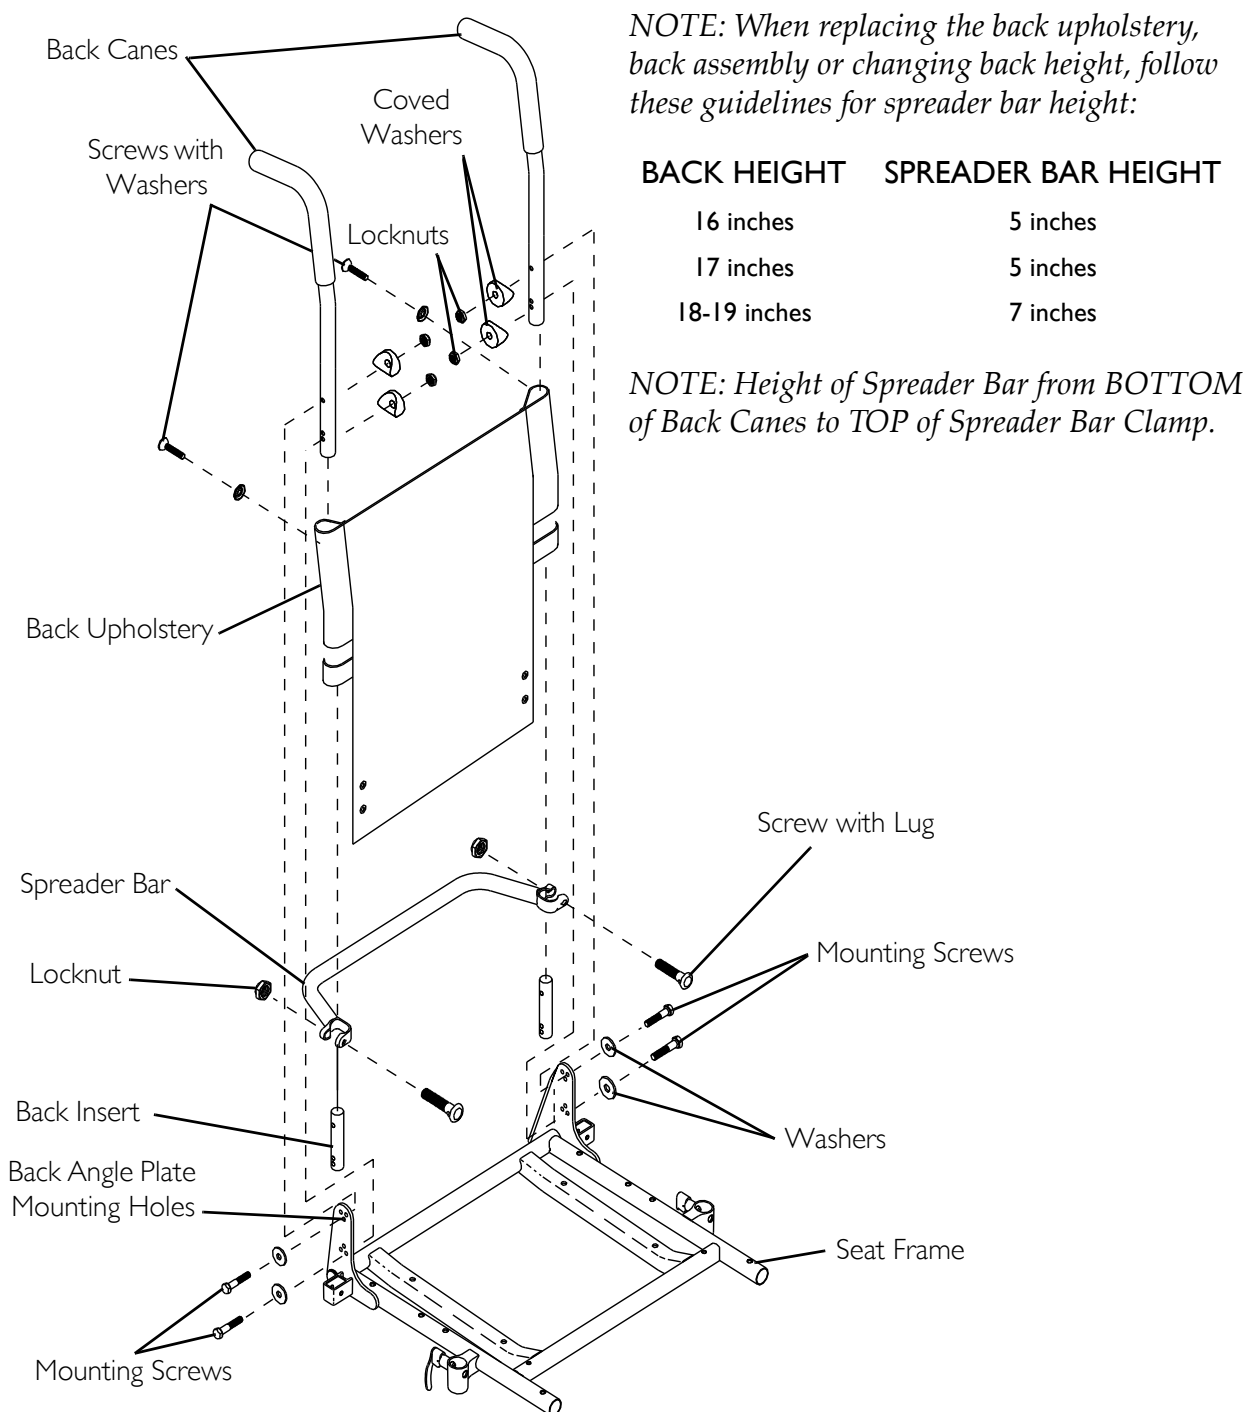

FIGURE 4.9 Removing/Installing/Changing the Back Cane Height
NOTE: For this procedure, refer to FIGURE 4.9 on page 49.
NOTE: Spreader bar is required on ALL back heights between 20 to 24 inches. Spreader bar is required on back heights 16, 17, 18, or 19 inches ONLY if the width or depth of the chair exceeds 19 inches. Refer to FIGURE 4.9 on page 49 for proper spreader bar location on back canes.
5. Position back assembly between the back angle plates (FIGURE 4.9).
8. From outside of wheelchair, secure the back cane to the back angle plate using two mounting screws, washers, coved washers and locknuts (FIGURE 4.9). Use Loctite 242 and torque to 75-inch-lbs.
12. If necessary, reposition the spreader bar at the correct height for the corresponding back height and torque the mounting hardware to 60-inch-lbs (FIGURE 4.9).